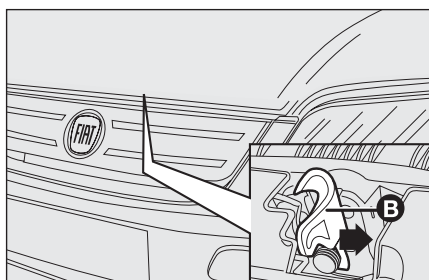

fig. 119
- ☐ move lever **B**-fig. 119 in the direction of the arrow;